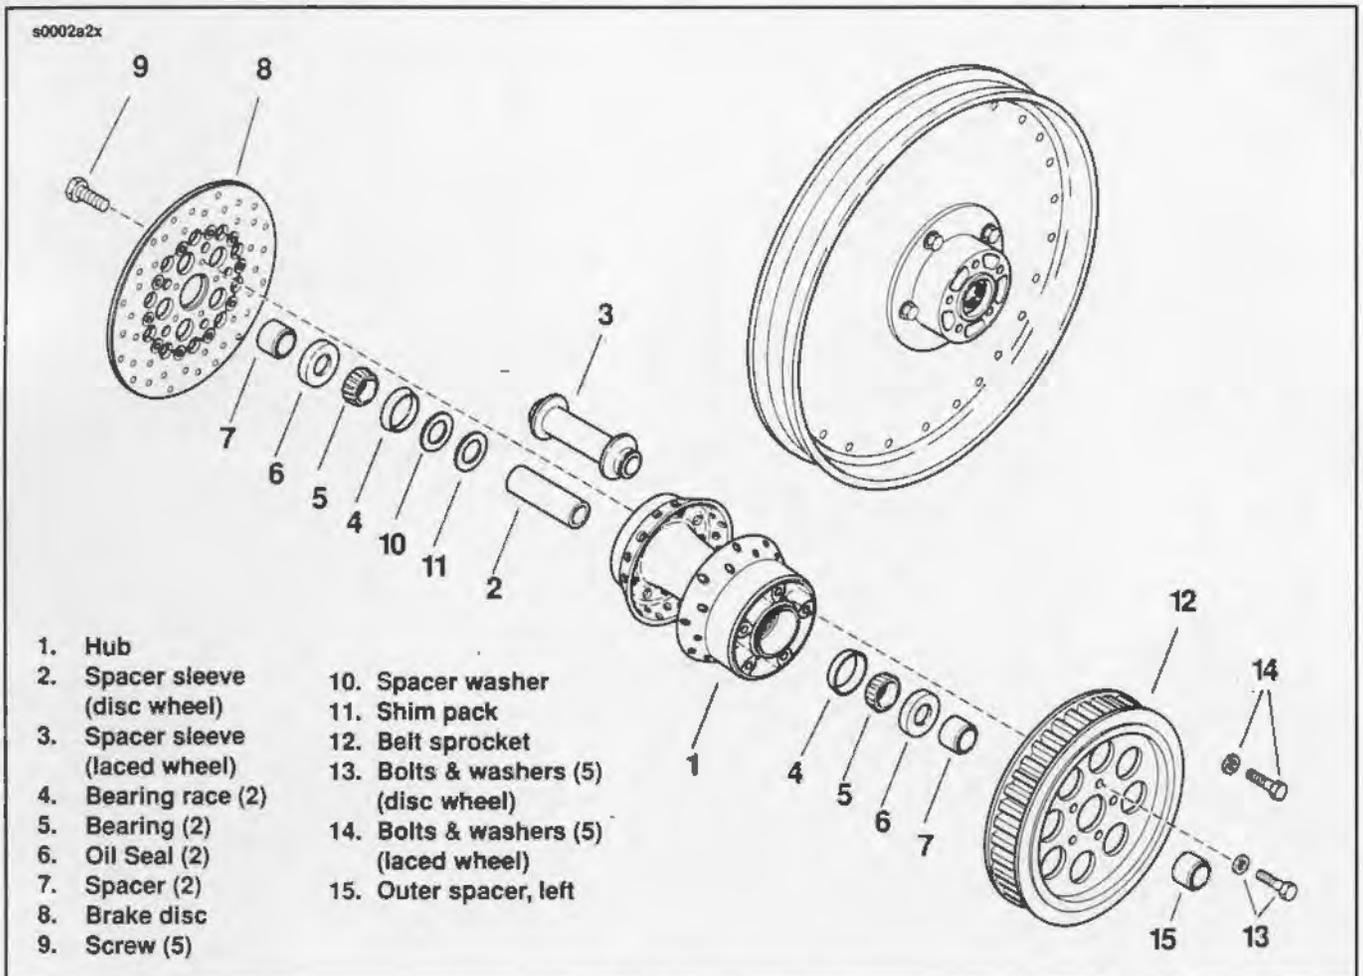

Figure 2-9. Rear Wheel/Hub
1. See Figure 2-9. Remove the spacer (7), seal (6), bearing cone (5), spacer washer (10), shim pack (11) and spacer sleeve (2) or (3) from the right side of the wheel.
2. Remove the brake disc screws (9). Remove brake disc (8).
3. Remove spacer (7), seal (6), and bearing cone (5) from the left side of the wheel.
4. Remove the belt sprocket bolts and washers (13 or 14) to remove belt sprocket (12).
5. If it is necessary to remove the bearing races (4), use WHEEL BEARING RACE REMOVER AND INSTALLER, Part No. HD-33071.
1. See Figure 2-9. Clean the disc (8) with Loctite CLEANING SOLVENT and install disc on the wheel with new T-45 Torx screws (9). Tighten screws to 30-45 ft-lbs (41-61 Nm).
3. Install spacer sleeve (2) or (3), shim pack (11) and spacer washer (10) in wheel.
3. See Figure 2-9. Coat axle with Loctite ANTI-SEIZE LUBRICANT and from right side carefully slide axle and belt adjuster collar through right rear fork, rear caliper bracket, spacer (7) and brake disc (8).
4. Continue sliding axle through wheel, spacer (7) on left side of wheel, and sprocket (12).
5. Place spacer (15) between sprocket (12) and inside of left side of rear fork.
6. Slide axle through spacer (15), belt adjuster collar and left side of rear fork.
The shim pack, Item 11 in Figure 2-9, controls the amount of wheel bearing end play.